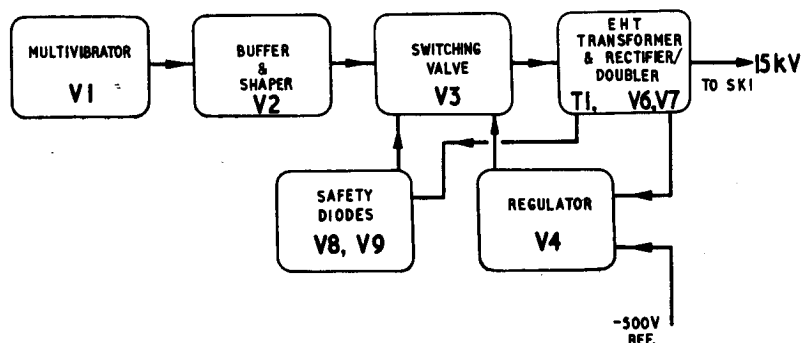

Fig. 4. Power unit (EHT) Type 898—block diagram
Valve type numbers and base connections may be obtained from the circuit diagram (fig. 4) at the end of this chapter.
4. A complete circuit diagram of the EHT power unit is given at the end of this chapter (*fig. 7*). The simplified block diagram (*fig. 4*) shows how the circuit may be broken down into six stages, as follows:—